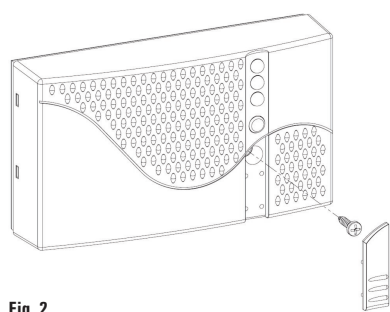

Fig. 2
To access the internal components of the gas detector, loose the screw under the raw plug on the front panel (Fig. 2).
3. Remove the detector panel as shown in Fig. 2.